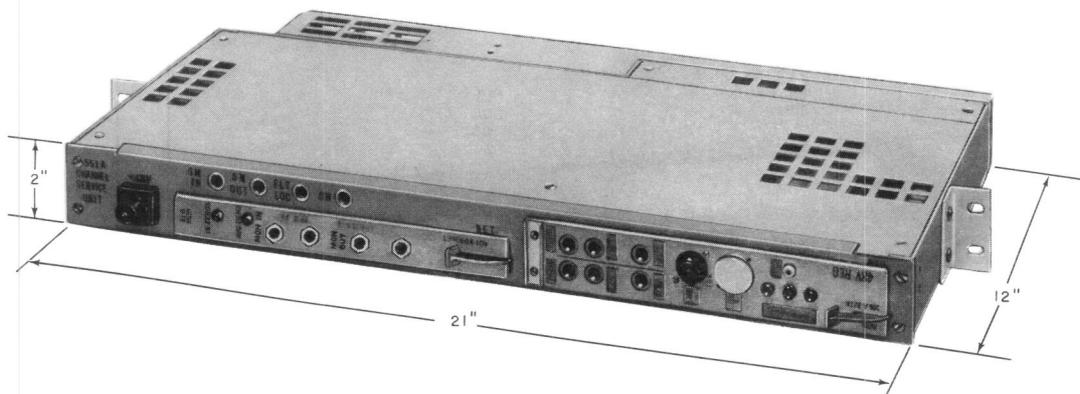

Fig. 1 — 551A Channel Service Unit
1.01 This section contains information concerning the installation and connection of a 551A-type channel service unit (CSU), Fig. 1. This section also contains option installation information and a list of tests to be performed at time of installation.